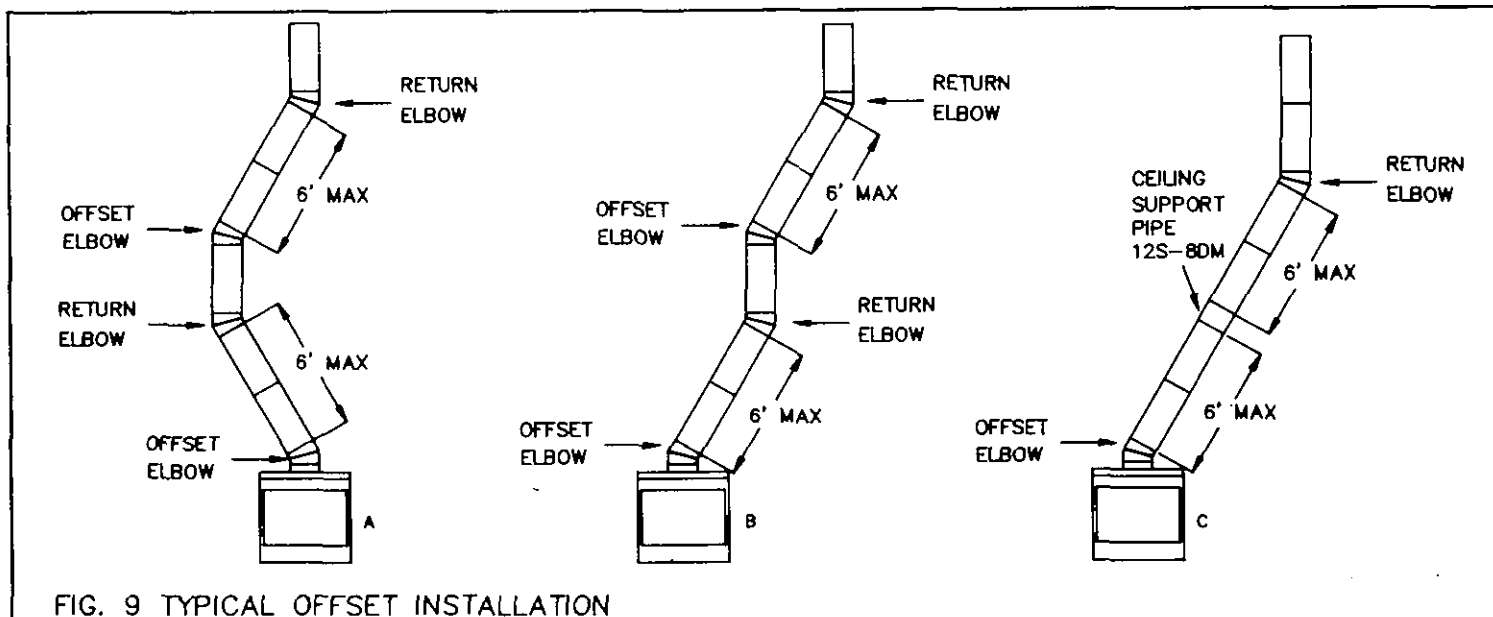

FIG. 9 TYPICAL OFFSET INSTALLATION
3. Maximum length of pipe between supports (return elbow or 12S-8DM) is 6 feet of angled run. Maximum of two (2) 6 feet angled run sections per chimney system (FIG. 9).